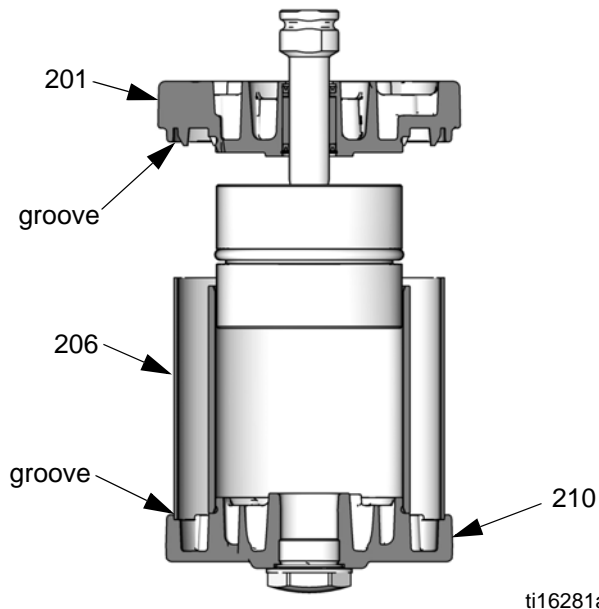

FIG. 23. Align Shield in Grooves on Covers
5. Lubricate and install the o-ring (202*) on the bottom cover (201).
6. Carefully push the threaded end of the rod (218) up through the bottom cover (201).
7. Apply 16G561 adhesive to the threads of the rod (218). Screw the piston (219) onto the rod. Place the piston in a vise with soft jaws and torque to 35-40 ft-lb (47-54 N•m).
8. Lubricate and install the o-ring (204*) on the piston (219).
9. See FIG. 23. Carefully place the bottom cover/piston assembly on the cylinder (205), sliding the piston (219) into the cylinder. The manifold surfaces of the top and bottom covers must align. Be sure the shield (206) is in the groove on both the top and bottom covers.